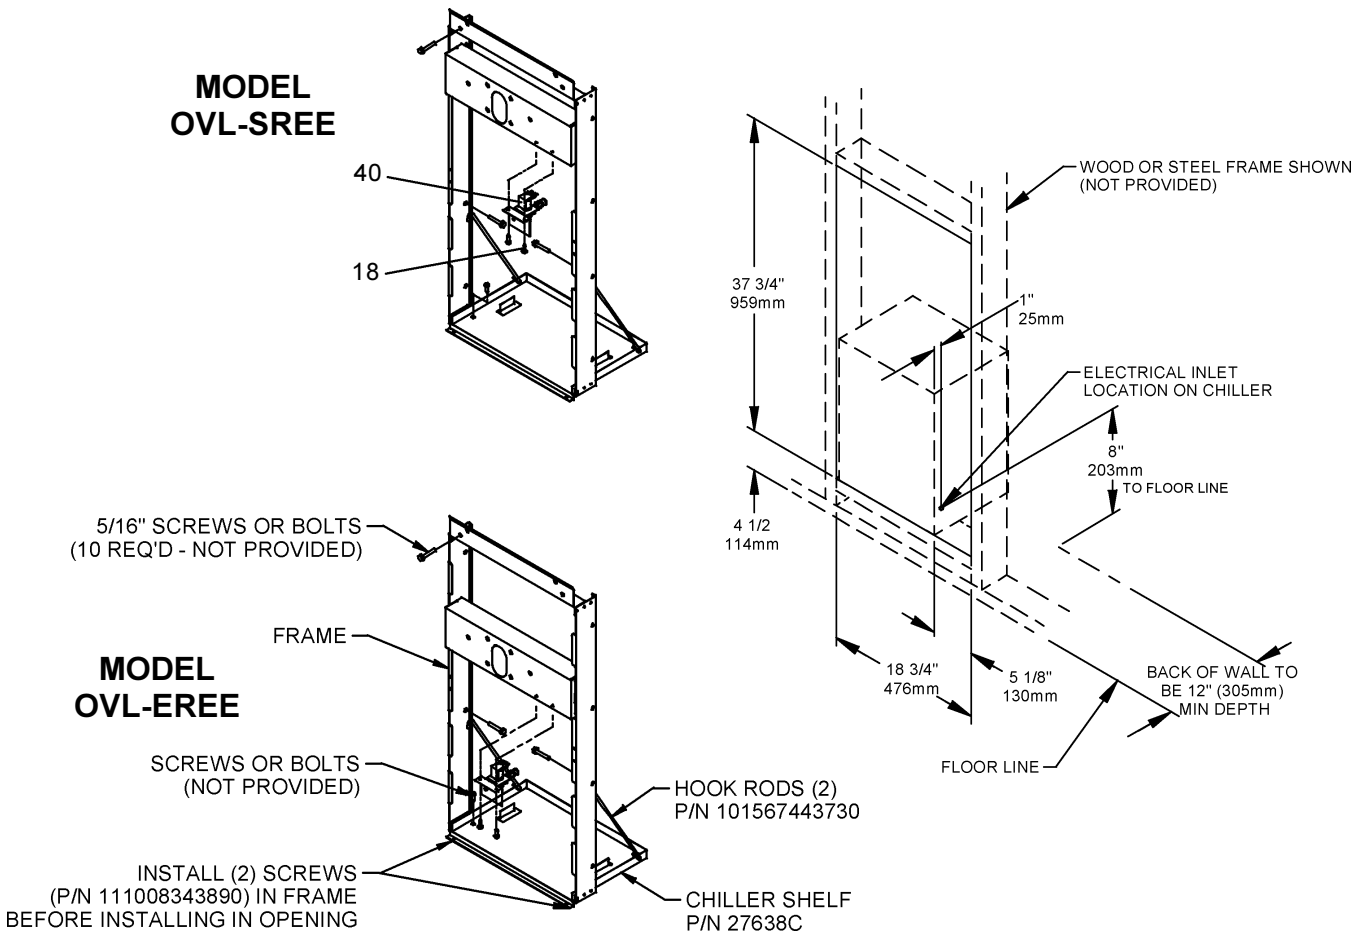

Figure 10 – Rough-In Assembly
1. **Cut a rectangular wall opening** 18-3/4" (475 mm) W x 37-3/4" H (959 mm) and 4-1/2" (114 mm) above the floor line (see Figure 10). The dimensions are required to obtain proper rim and bubbler heights for compliance with ANSI standard A117.1.
3. **Install plumbing and electrical rough-ins.** A junction box for a (3) wire, 10 amp branch circuit is provided on the inside of the chiller. (Standard 120 Volts, 60 Hz, and single phase.)